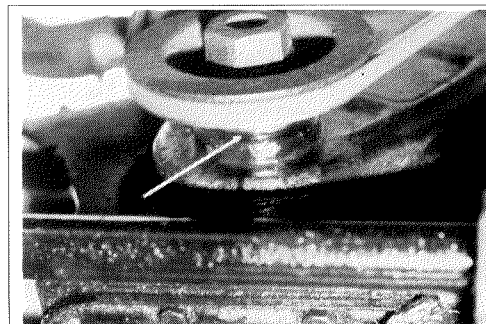

Fig.8. A leaky timing chain cover oil seal, pictured from beneath the car.
- a. **Timing Chain Cover Oil Seal** Failure of this seal, Fig. 8, is usually responsible for the oil at the front of the engine that covers the timing chain cover, block and sump. The engine fan exacerbates the problem, distributing the oil vapour to the under-side of the bonnet and the engine valances. If unchecked, the radiator core becomes covered in a thin film of oil, reducing its efficiency. In addition the radiator bottom hose, steering rack gaiters and mounting rubbers will suffer from prolonged exposure to the oil. Replacement of the seal is fairly straightforward, provided you can undo the large front pulley nut!